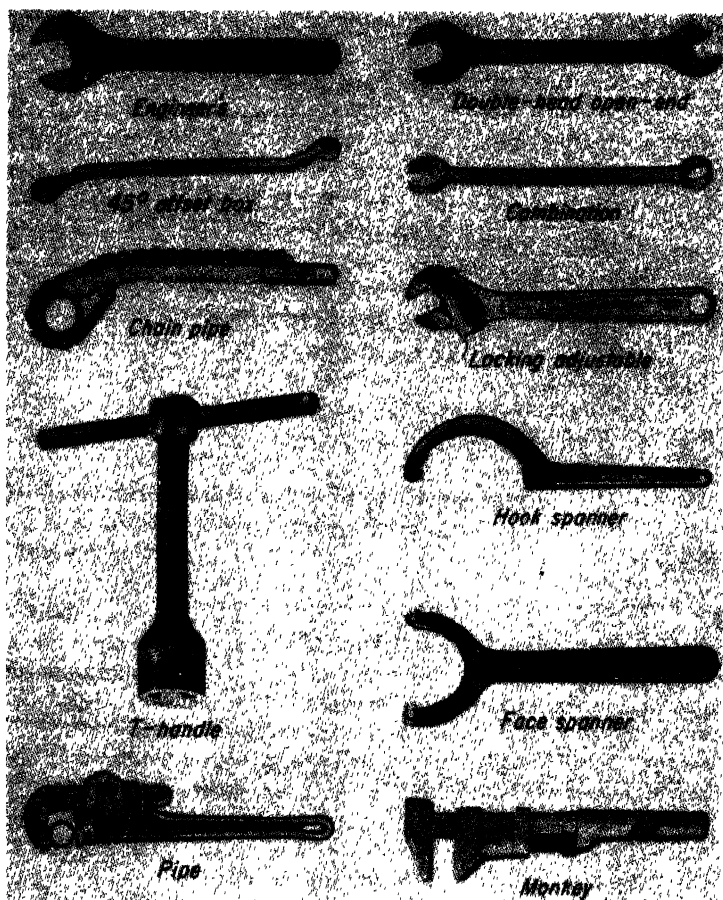

Fig. 4-6. Several types of wrenches (J. H. Williams Company, Ridge Tool Company, The Billings & Spencer Company)
Wrenches are made in many different forms. Any form of wrench consists of a handle or handles with jaws, lugs, or an opening or socket to fit the object to be turned. They are named (1) from their shape, such as S wrench and angle wrench, (2) from the object on which they are used, such as the tap wrench and pipe wrench; and (3) from their construction, such as the spanner wrench and ratchet wrench. Several of the wrenches commonly used in machine work are illustrated in Fig. 4-6.